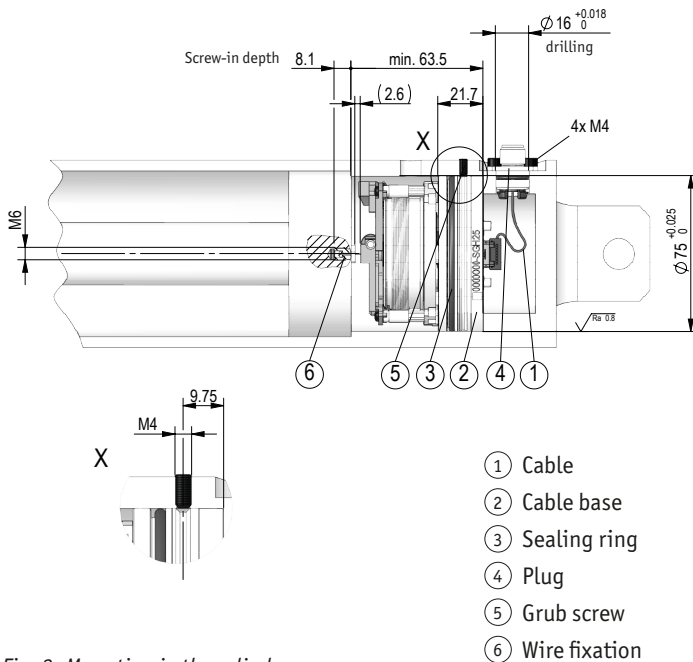

Fig. 3: Mounting in the cylinder
### Mounting (Fig. 3):
1. Plug the cable ① without flange enclosures on the SGH25. When installing, the cable ① (e.g. KV1H) should be directed to the cable outlet from the bottom part of the cylinder.
2. Carefully press the SGH25 with greased sealing ring ③ into the the bottom part of the cylinder. Make care that the plug insert ④ and the cable won't be pinched, by pulling out the plug insert trough the plug outlet on the bottom part of the cylinder. Join the plug insert with the flange enclosures incl. greased O-ring and screw it 4x at the intended position. The axial fixing can be done with a securing bolt screw ⑤ as shown in fig. 3. Tighten the threaded pin slightly (approx. 0.5Nm) and then turn back again approx. 0.5 turns.
For detailed information on installation refer to chapter 4.1 (Fig. 3)